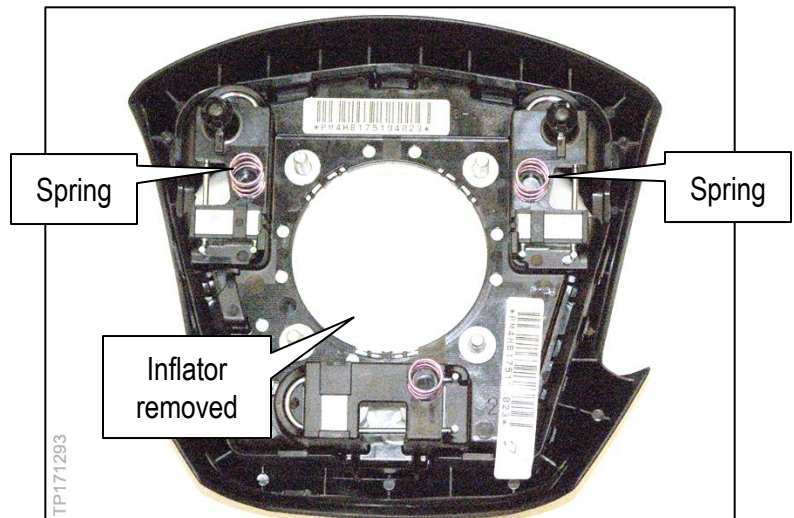

Figure 8
- Two (2) springs should be positioned as shown in Figure 8.